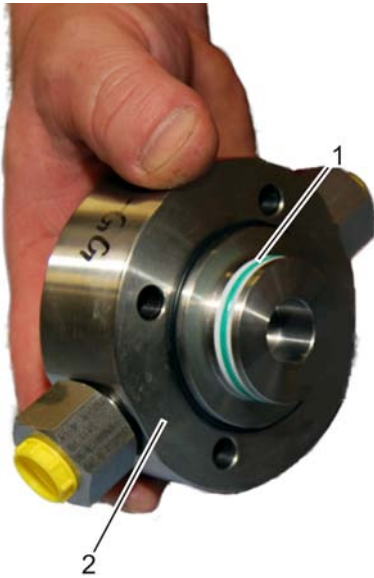

Fig. 93: High pressure seal (on high pressure side)
1. → Check high pressure seal (Fig. 93/1) on booster head (Fig. 93/2) for signs of wear and replace if necessary.